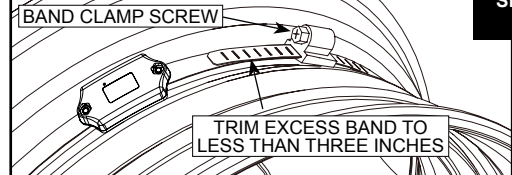

Figure 2: Screw-mounted Internal sensor final install
4. Put the sensor and sensor band in the **center position** (sometimes known as the "well") of the wheel hub. See Figure 2.
7. Tighten the band clamp on the wheel hub. Ensure sensor does not move laterally or rotate on wheel hub. See Figures 2, 4 and 5.
1) On *Screw-mounted sensor*, trim excess band. Do not let the trimmed end of the band protrude away from the wheel. 2) On *Pass-through sensor* position the sensor to secure the tail. See Figures 2 and 4.